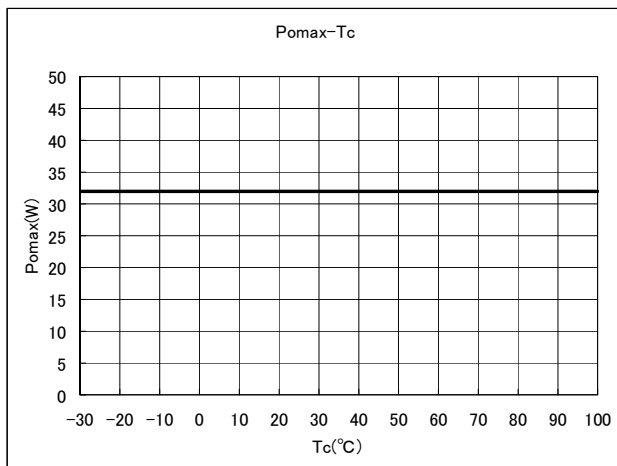
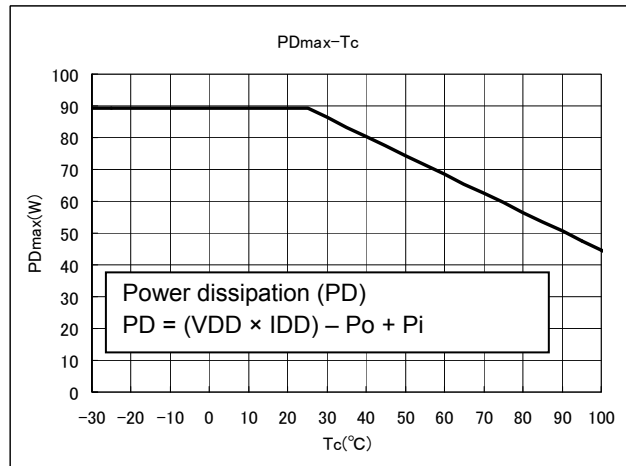

Figure 1 Pomax-Tc
Figure 2 PDmax-Tc
Note 2: The output power rating satisfies the range shown in Figures 1 and 2 according to the operating case temperature. Ensure that the device should be operated within the specified operating range. The figures below indicate the output power obtained 2 seconds after P_o is generated.
*When the device is used at T_c = 100°C, the output power rating is 32 W as shown in Figure 1. When the power dissipation at T_c = 100°C exceeds the rating shown in Figure 2, the output derating is required to limit the dissipation within the specified range.
Note 5: The output power is intended to follow the rating provided in Figure 1 in Note 2.